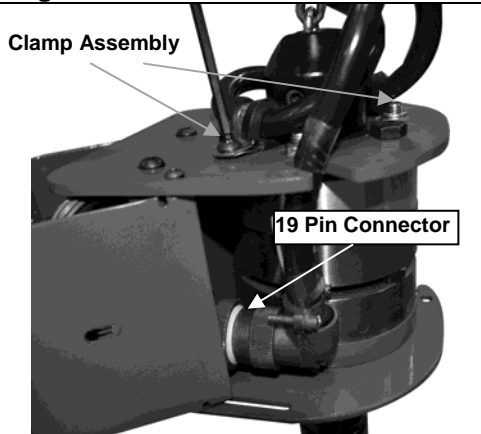

Figure 2-11
- 7) Connect the 19-pin connector to the side of the handle. (See to Figure 2-11)
- 9) Secure the (2) two M6 bolts for the handle coil cable clamping assemblies on top of the control handle. (See Figure 2-11)